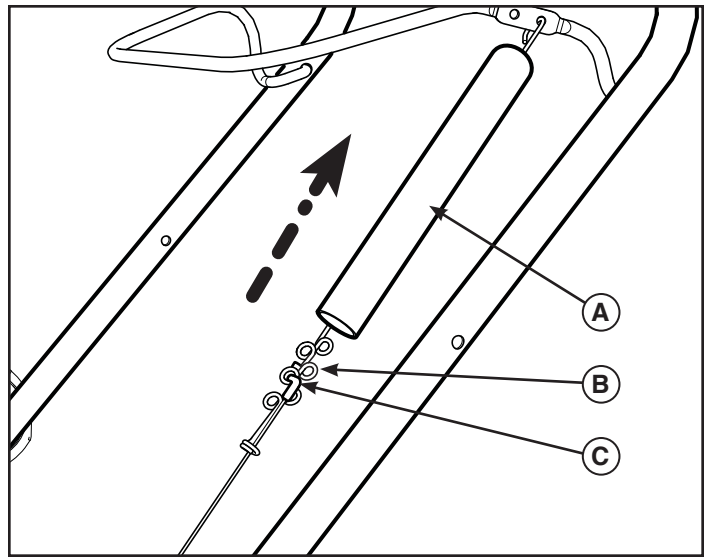

Figure 16
2. Slide the cable cover (**A**, Figure 16) up to expose the cable adjustment loops (**B**) and Z-bend (**C**).